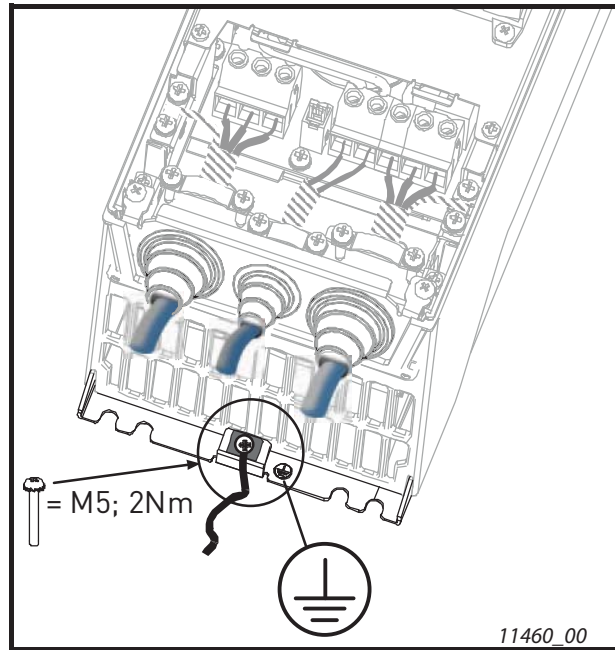

Figure 25. Additional protective grounding connector
**NOTE:** Two protective conductors are required according to standard EN61800-5-1. See Figure 25 and chapter Grounding and ground fault protection. Use an M5 size screw and tighten it to 2.0 Nm (17.7 lb-in.).